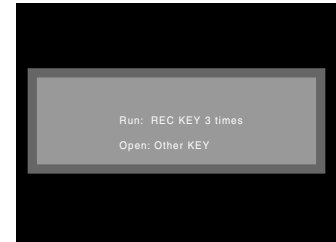

Fig. 3-4-8
- 1) Refer to “3-4-2 Method of starting up firmware update program” and start the firmware update program: Once the firmware update program has started, the screen in Fig. 3-4-8 will appear.